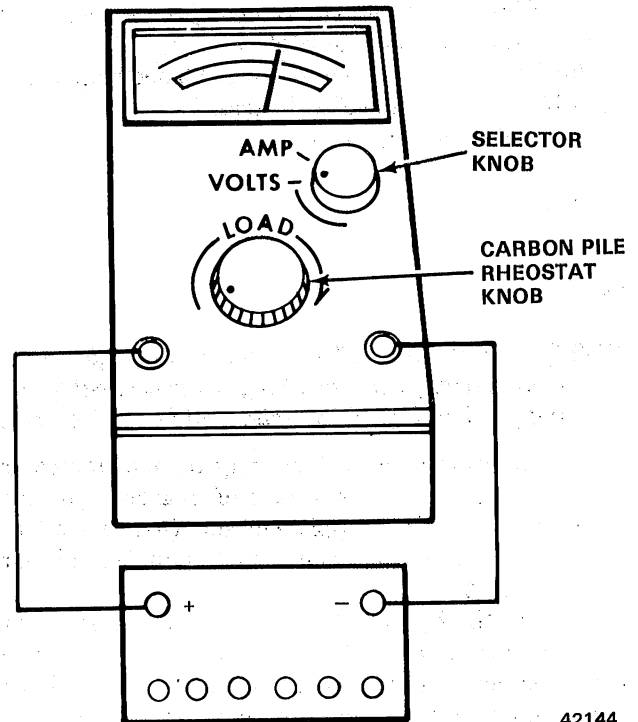

Fig. 1D-3 Heavy Load Test
(1) Before performing heavy load test, battery must be fully charged. Refer to Slow Charge.
(2) Turn carbon pile rheostat knob of battery tester to **OFF** position (fig. 1D-3).
(3) Turn selector knob to **AMP** position.
(4) Connect test leads as illustrated in figure 1D-3.
(5) Turn carbon pile rheostat knob clockwise until ammeter indicates correct test amperage: